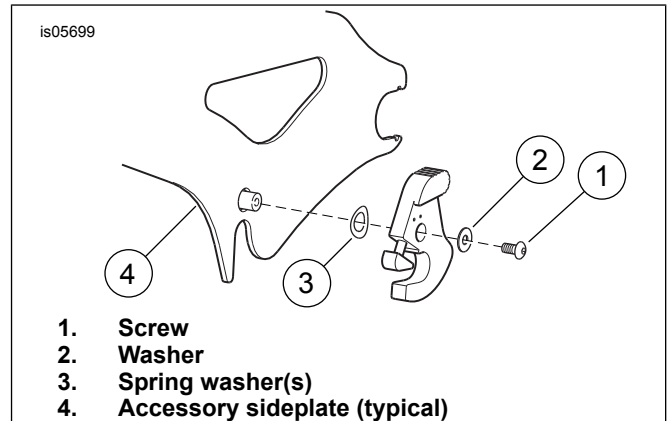

Figure 2. Remove Latch (Outer Right Installation Shown)
2. See Figure 2. Remove screw (1) and washer (2) from the latch being replaced. Save the screw and washer for installation.